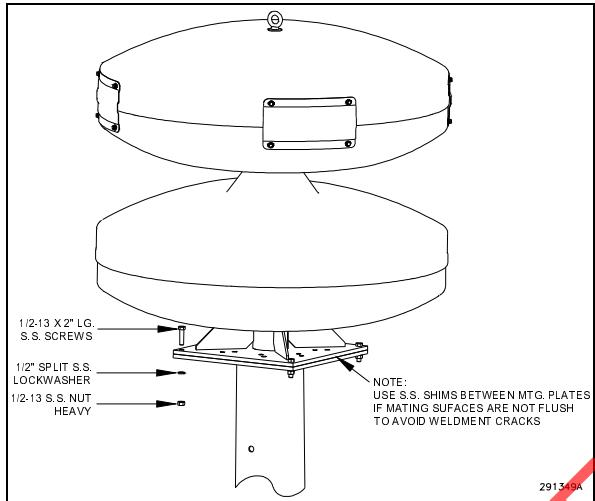

Figure 3-3. Steel Pole Mounting
3. Attach the modulator base to the pole's top plate with four of the stainless steel 1/2" bolts, nuts, and lock washers provided (see *Figure 3-3*). All